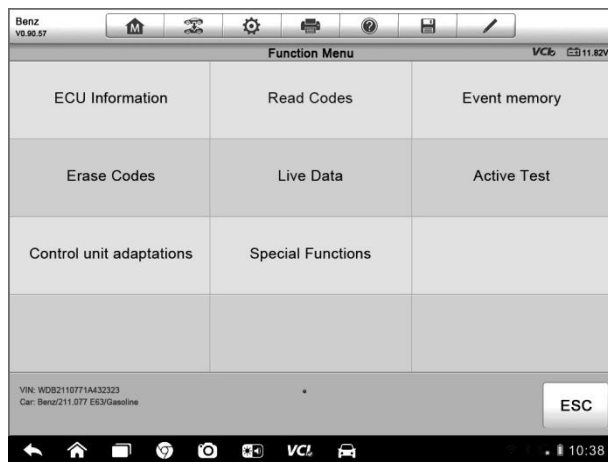

Figure 4-7 *Sample Function Menu Screen*
- Tap the  button to the right of the system item, on which you want to perform further diagnosis and other test activities. A Function Menu screen (*Figure 4-7*) shall then display.